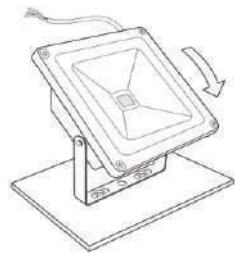

Fig. 3
4. Reconnect the floodlight to the bracket using the same connections as provided when the light is removed from the packaging (fig. 3).